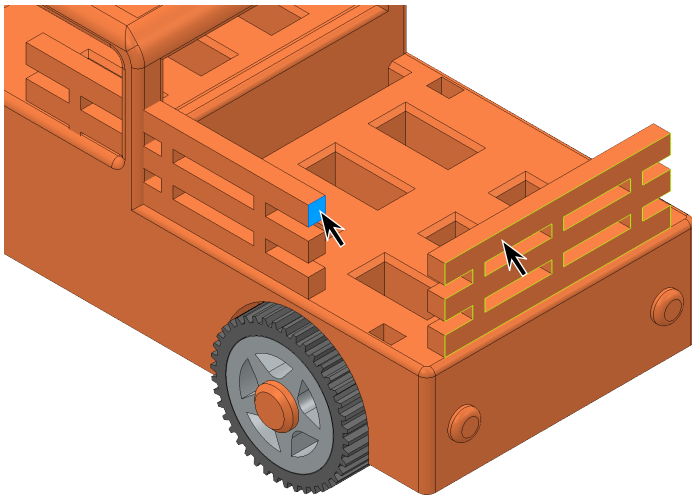

Fig. 27
Step 6. Click **end face of Side Rail** and **rear face of Rear Rail**, **Fig. 27**.